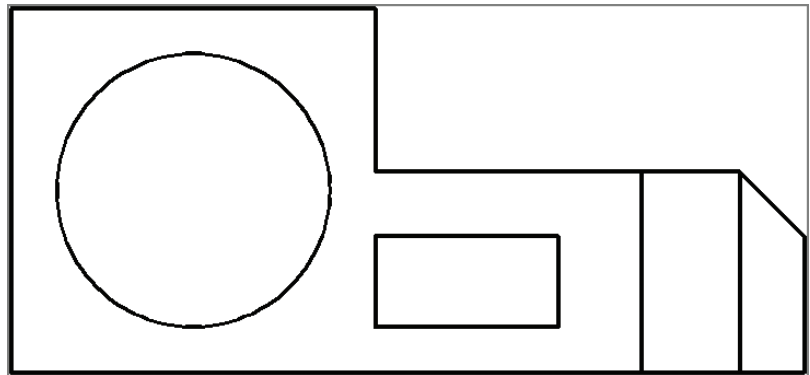

FIGURE 3.18 Completed mechanical part
9. Type **@1', -6** (or **@280, -160** for metric), and press Enter. The rectangle and drawing is complete (see Figure 3.18).